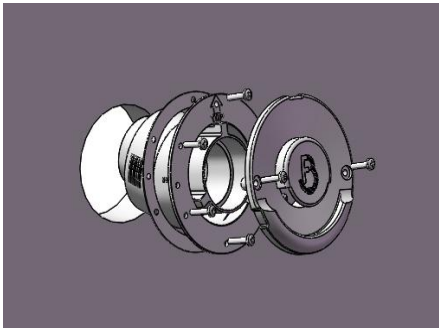
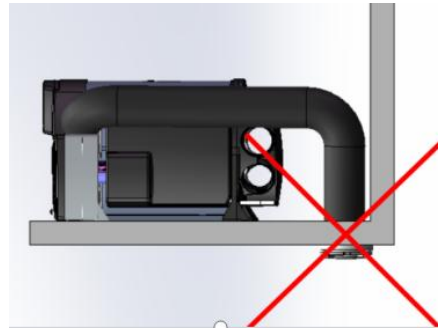

Figure 9
Figure 10
3. The intake and exhaust port body is installed on the vehicle wall, and it is prohibited to be installed on the vehicle floor. As shown in Figure 9 and Figure 10.